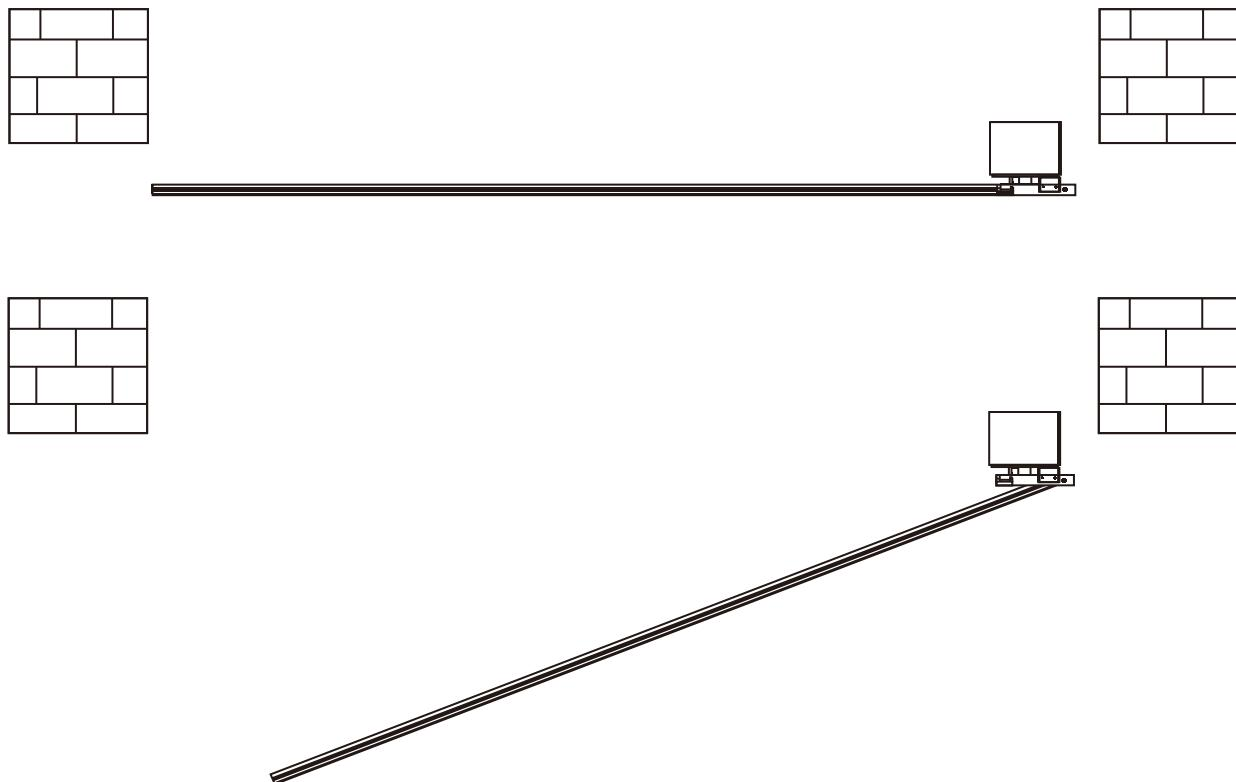

Figure 1
- (1) Before installation, please make sure there is no any obstacle within 4.5 meters of installation field. Please refer to the Figure 1.